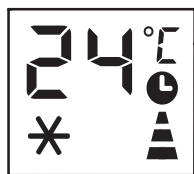

Fig 5
- The screen will display 1-24 hours and the ,  and  symbols will flash together (Fig. 5)